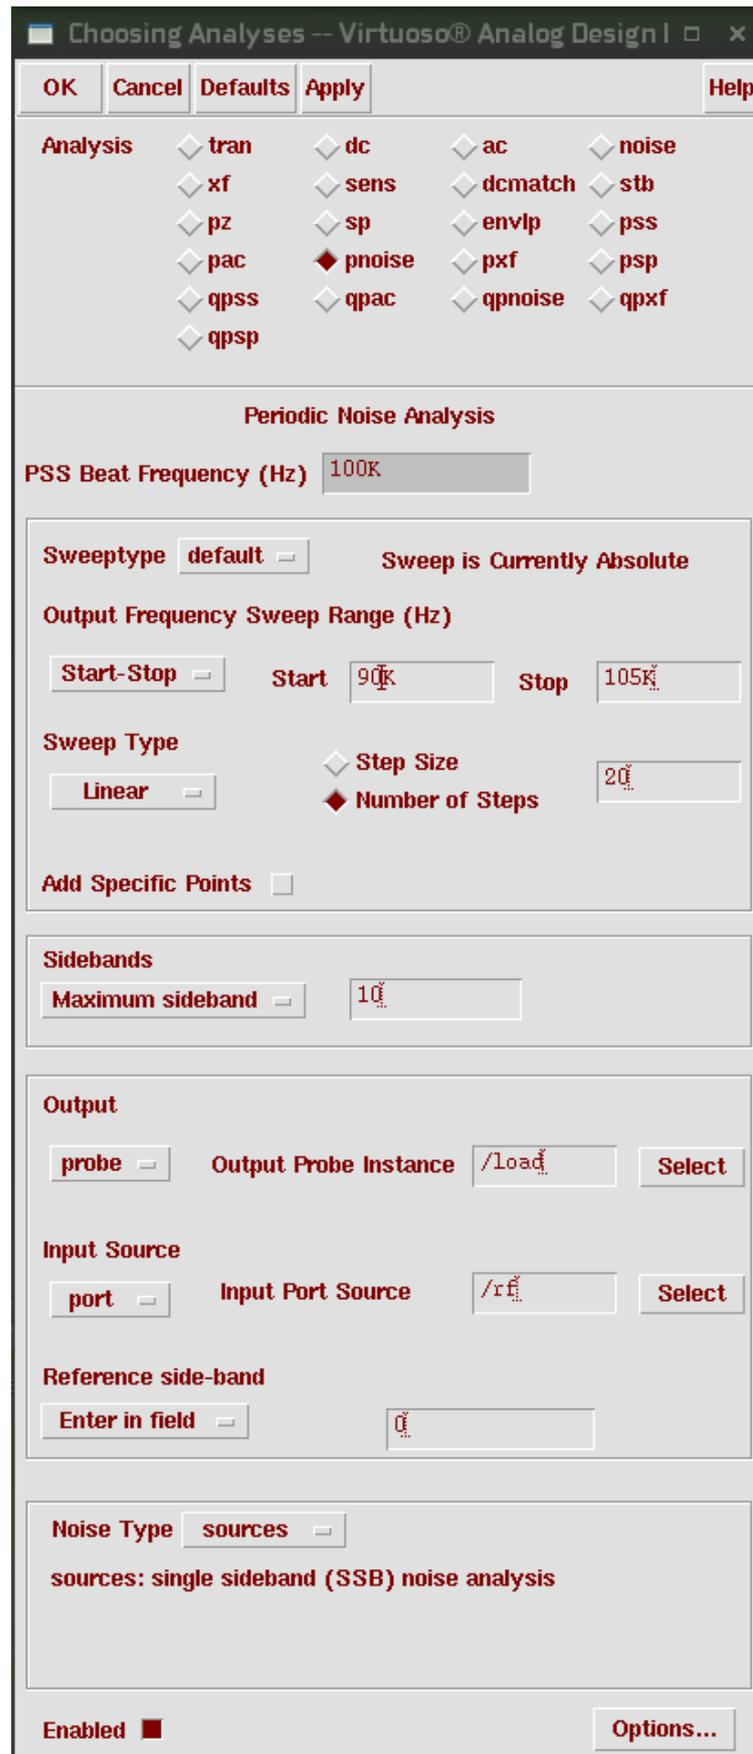

Figure 3.1: PNOISE analysis setup
4. In ADE, under analysis, choose PNOISE. Refer Fig. 3.1